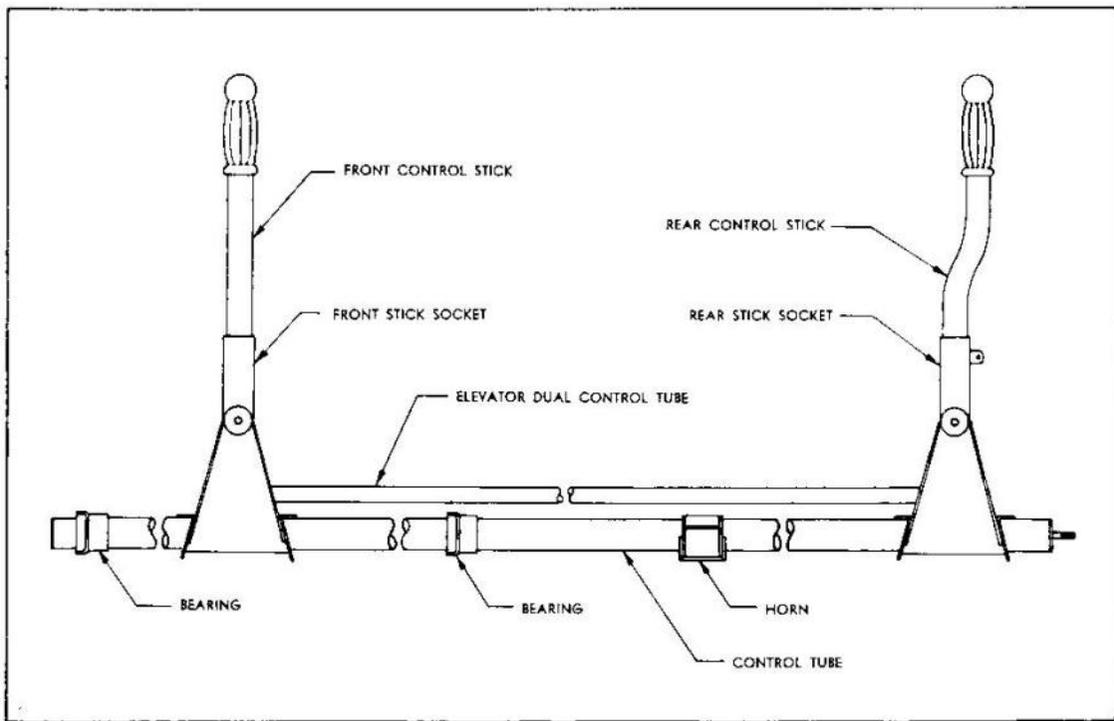

Figure 17 - Control Column
a. Horizontal control surfaces are actuated by means of a torque tube connecting dual controls in the cockpits. (See figure 17.)